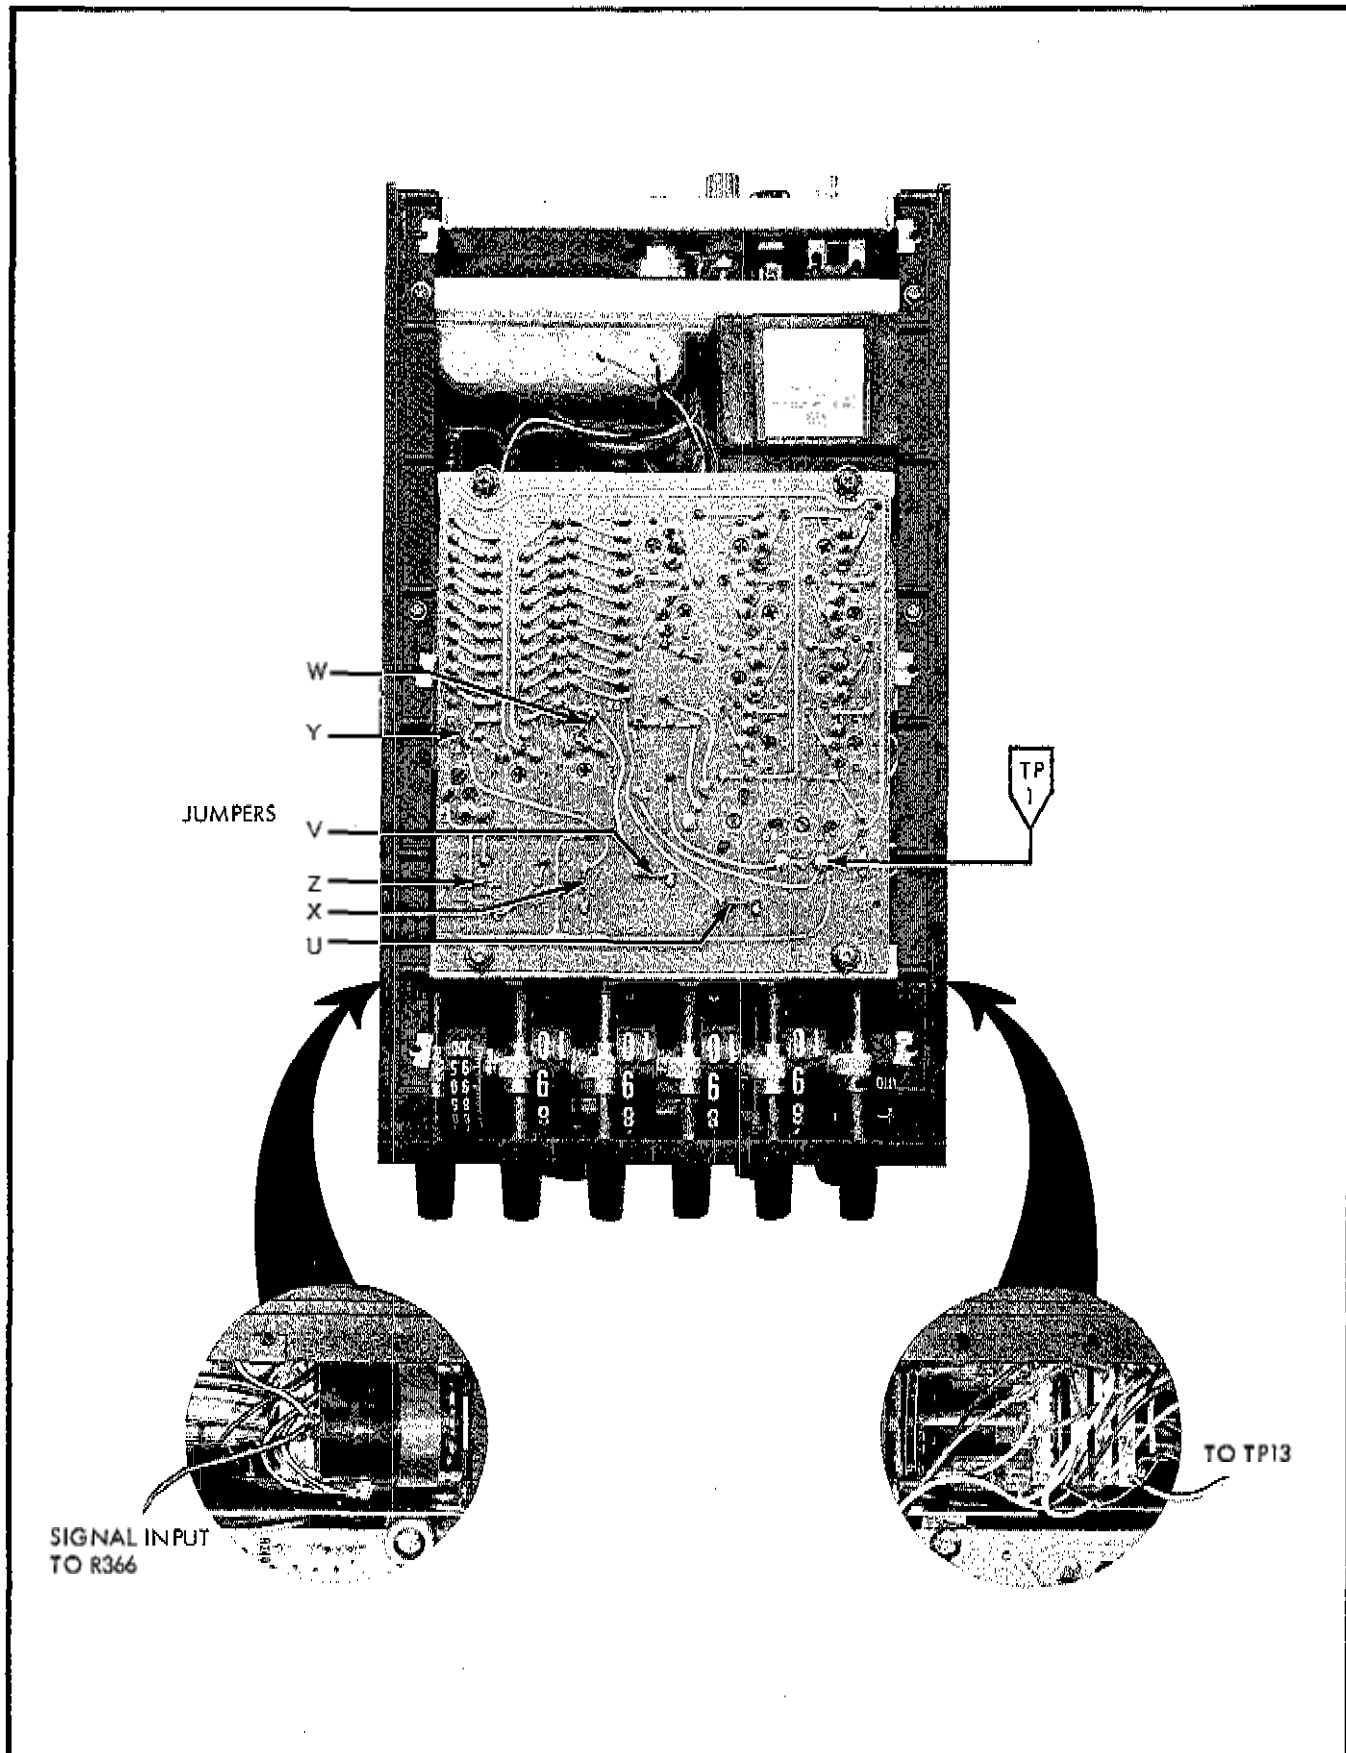

Figure 4-14. KELVIN-VARLEY CONNECTIONS
- With the aid of Figure 4-14, locate high input (white wire from TP13 on Kelvin-Varley board to polarity switch), high output (wiper terminal of R386 where brown and yellow wire are connected), and input-output common (TP1 on Kelvin-Varley board) of Kelvin-Varley divider.
d. Open jumpers marked with a U, V, W, X, Y, and Z (see Figure 4-14) by unsoldering one end and pulling it loose. Also unsolder high input of Kelvin-Varley divider (white wire from Kelvin-Varley board to polarity switch).